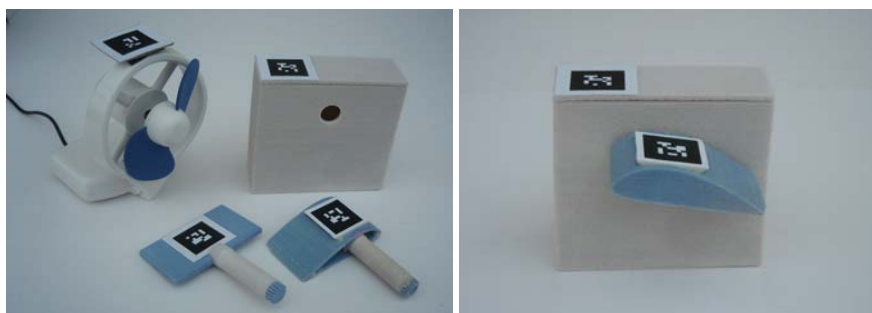

Figure 17
The miniature aeroplane wing (mini-wing) consists of an object shaped like the section of an aeroplane wing, connected to a box (figure 17). The angle of the wing with respect to the ground can be changed. There is also a fan that is powered through a USB connection, and a flat wing for comparison purposes. This miniature is designed with a specific activity in mind, which is to help explain why aeroplanes can fly and to determine the angle of the wing that maximises the lift afforded to the aeroplane.
1. Take the mini-wings out of their box, and then insert the shaped wing into the holes that go through the box. Put the lid on the box with the AR marker on the left (figure 17).